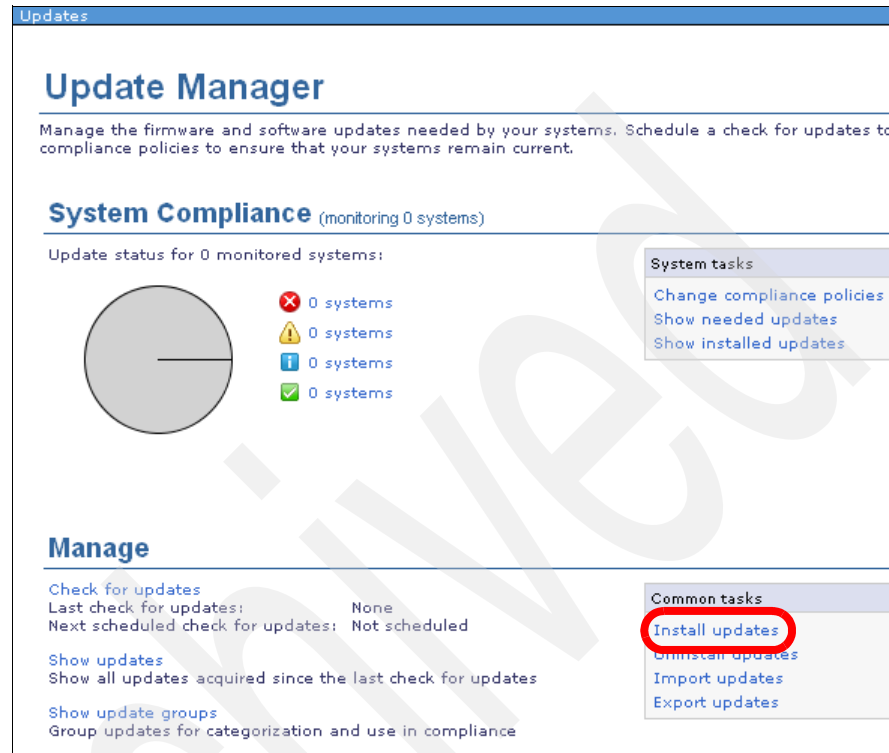

Figure 3-17 Installing the updates through the Update Manager window
11. In the Update Manager window, select **Install updates** as shown in Figure 3-17.